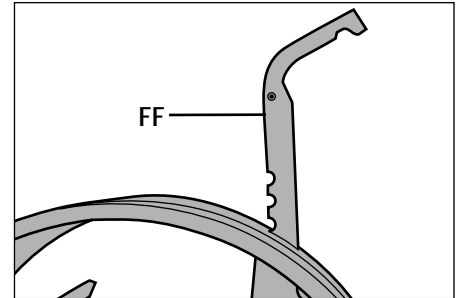

Fig. 2-10: Adjust Depth Regulator Lever.
1. Put the tiller on level ground. Pull the Depth Regulator Lever (FF, Fig. 2-10) back and then all the way up until the lowest notch in the lever is engaged.
2. With the tiller on level ground, pull the Depth Regulator Lever (FF, Fig. 2-10) back and then slide it up or down as necessary until the engine is level.